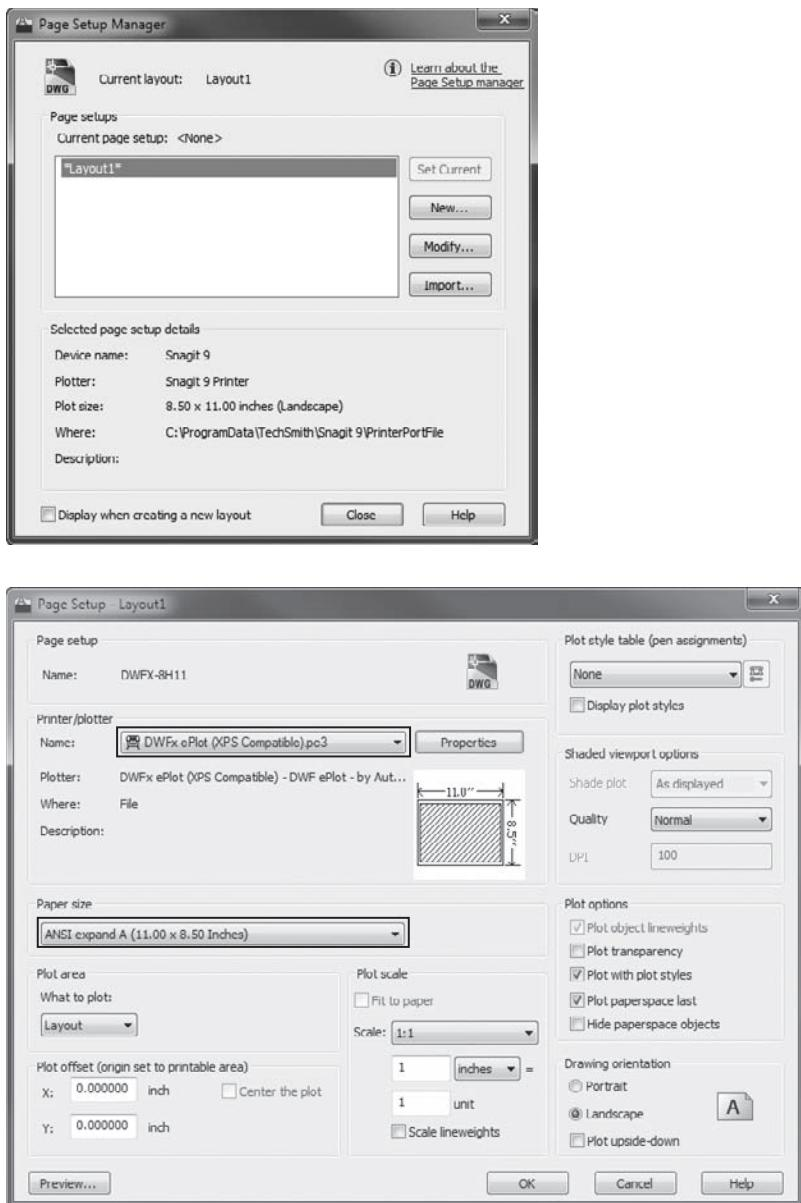

FIGURE 14.18 The Page Setup Manager dialog box (top) and the Page Setup dialog box (bottom)
3. Right-click and then click the Page Setup Manager option in the context menu. After a moment, the Page Setup Manager dialog box opens (see the top of Figure 14.18). This is where you create a new page setup, or assign an existing one, to be associated with a new or selected layout.
5. This opens the Page Setup dialog box, which has Layout1 added to the title bar (see the bottom of Figure 14.18). The DWFX-8H11 name appears toward the top of the dialog box in the Page Setup group. In all, the dialog box has 10 groups containing settings that control how the drawing will fit on the printed page and what part of the drawing is printed.